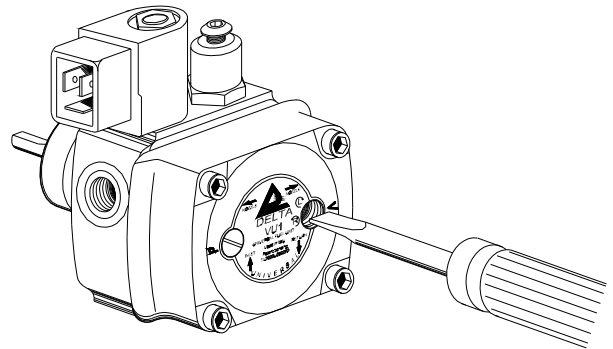

Fig. 3
- Turn it 90° up to the stop, to change the rotation (Fig. 3).